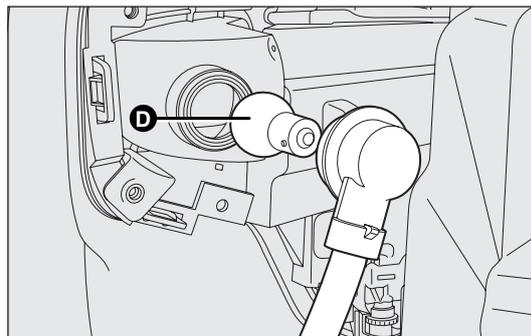

fig. 171
- ❑ remove the bulb D-fig. 171 by pushing it in gently and turning anti-clockwise (“bayonet” clamping), then replace it;